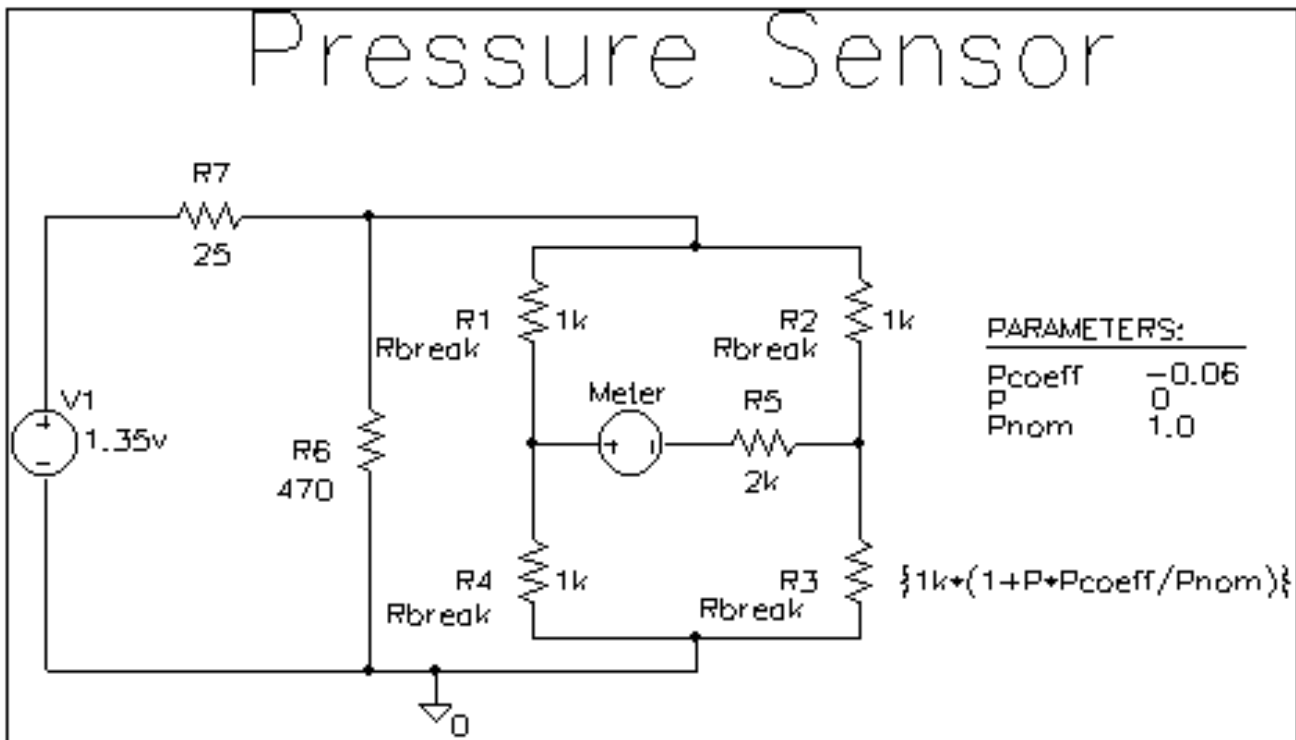

Figure 13-5 Pressure sensor circuit.
To begin, construct the bridge as shown in Figure 13-5 on page 585.
Define the part values as shown in Figure 13-5 on page 585. For the pressure sensor, you need to do the following:
2. Type the new value. Depending on the resistor you are changing, set its value to one of the following (refer to Figure 13-5 on page 585).
The model editing window should look something like Figure 13-5 on page 591.